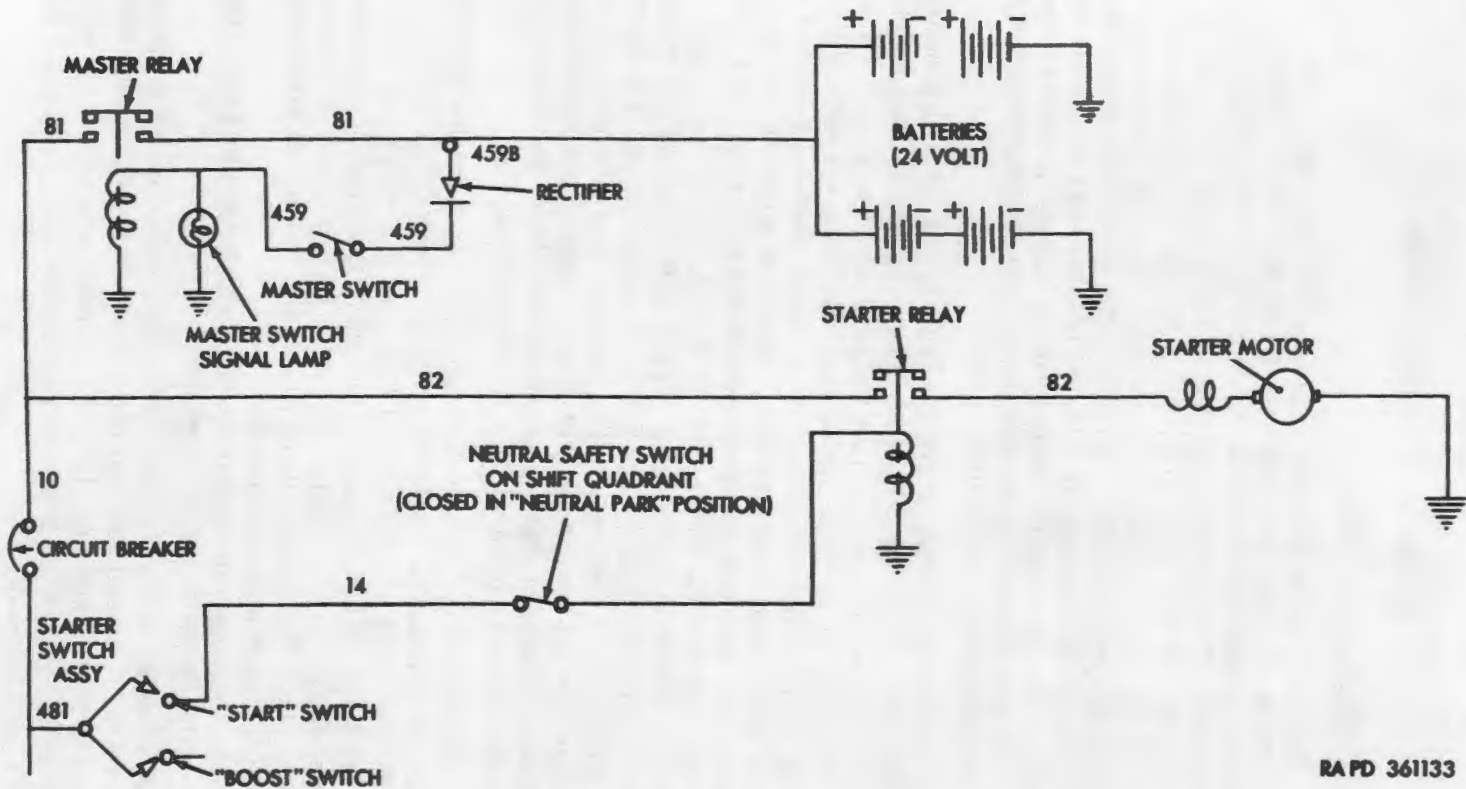

Figure 138. Starter circuit schematic wiring diagram.
a. Starting System Wiring (fig. 138). The starting system wiring consists of a control circuit carrying very little current and a starter circuit conducting heavy current from the batteries to the starter. The control circuit is routed from the batteries, through the master relay to a circuit breaker in the instrument panel to the main engine starter switch; from the starter switch through the neutral safety switch on the range selector control box, through the starter relay on the left battery box bracket, to ground. The main engine starter switch current is routed from the batteries, through the master relay, through the starter relay, to the starter motor, and then to ground.
c. Starter Relay. The starter relay (fig. 143) is bracket mounted with the rear support bracket of the left battery set to the hull wall. This relay contains heavy duty contacts which are spring-loaded to a normal-open position and serve to connect the electrical power supply to the starter. The relay circuit (fig. 138) is completed when the starter switch (C-2, fig. 15) on the instrument panel is turned to the start position.